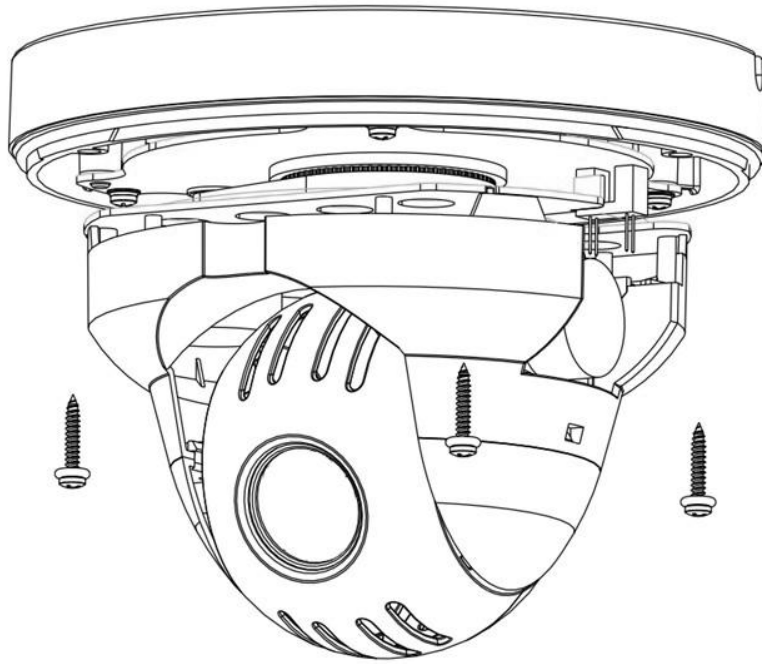

Figure 3-2
- 3) In Figure 3-2, pull the cable according to your cable exit mode. And then use four screws to secure the pedestal and driver of the ceiling speed dome on the ceiling. Turn the screws to the plastic expansion bolts.